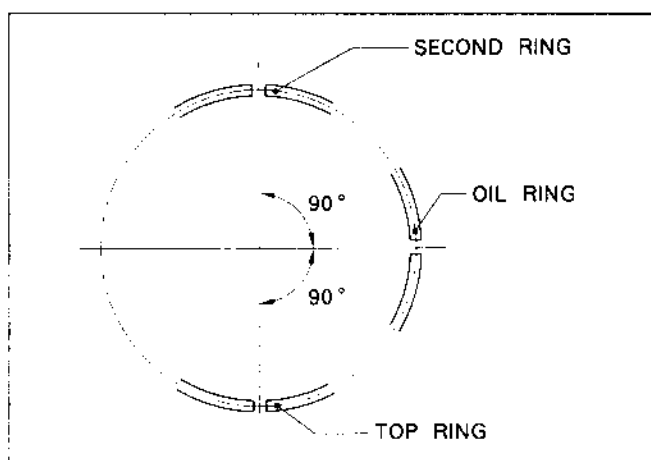

Fig. 48
- (1) Apply enough oil to piston rings, connecting rod bearings and cylinder bore before assembly.
- (2) Set gaps of the piston rings 90 degrees apart from one another before assembly. (See Fig. 48.)